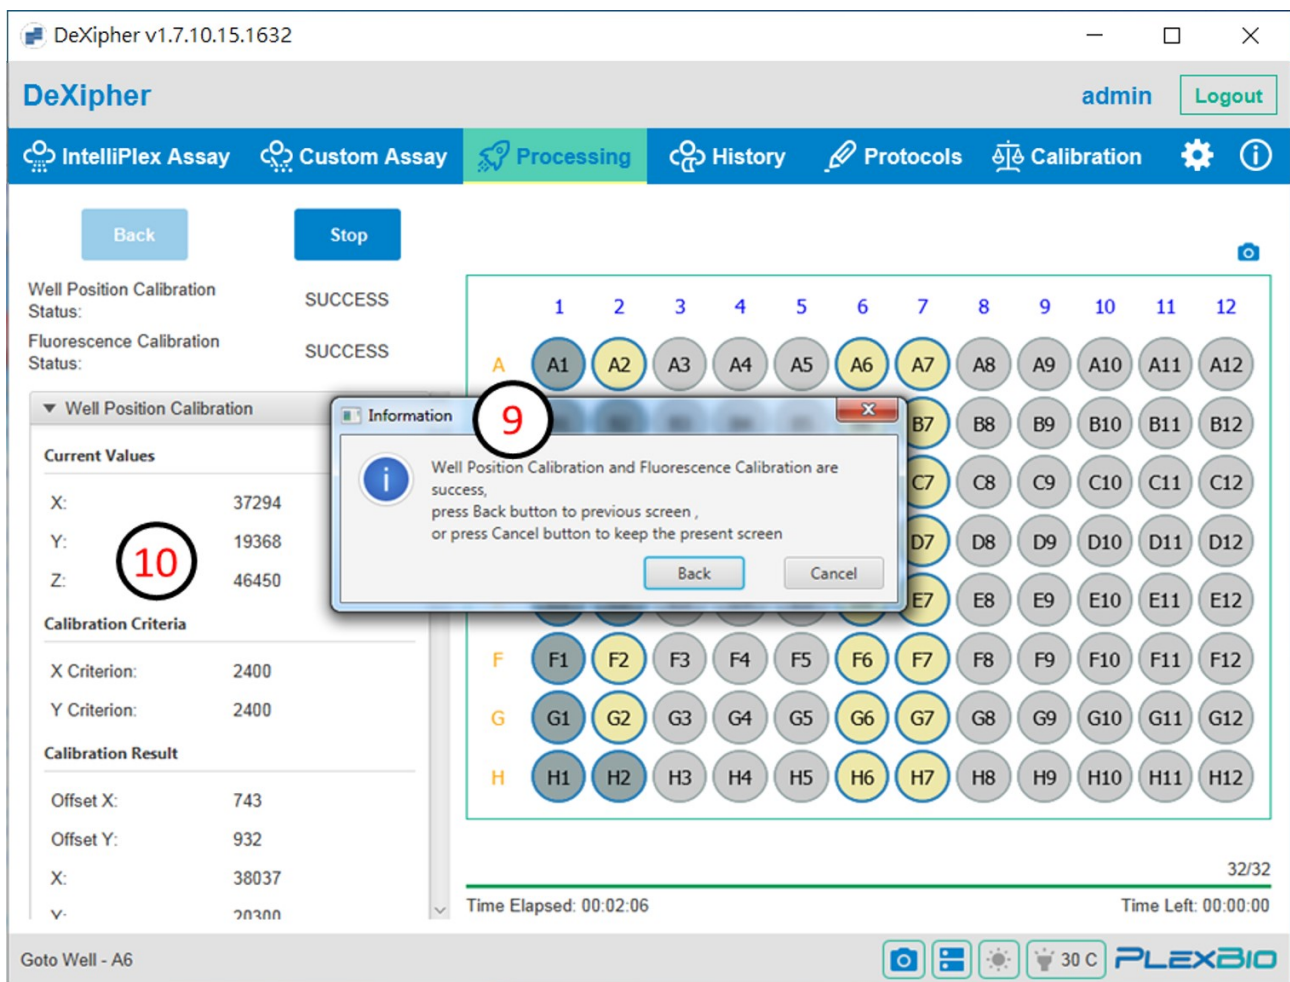

Fig. 48. Calibration process success
9. Once the calibration is complete, a pop-window will inform whether calibration is successful (Fig. 48).